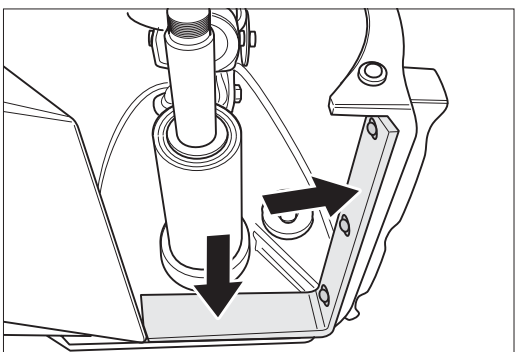

Fig. 38 The sealing felt must not demonstrate any signs of damage, otherwise replace.
- Ensure that the sealing felt is not worn or damaged (Fig. 38).